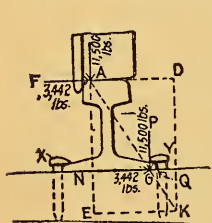

FIG. 55.
3. The load upon the rail due to the wheels traveling over it is both vertical and lateral (Fig. 55), according
5. By referring to Fig. 55 it will be seen that the lateral force tending to throw the rail to a wider gauge, is resisted by the outer spike only, marked "Y," which in its turn is supported by the fiber of the wood back of it; but that when a tie plate is used the widening of gauge can only then take place if both spikes Y and X together with the plate move laterally, which is impossible. Hence we have the full resistance of both spikes, plus that offered by the plate itself, to prevent widening of gauge, giving an increased safety in operation.